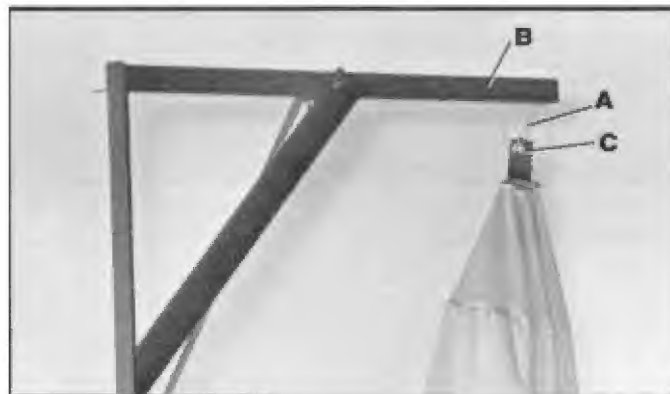

Fig. 27
1. Assemble rope (A) Fig. 27, to end of overhead support assembly (B) and attach free end of rope to eyelet (C) of bag assembly. **NOTE:** Use temporary knot to hold dust filter bag in place.